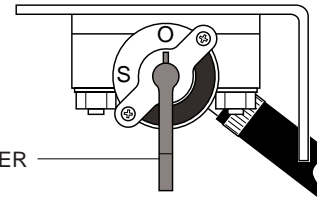

Figure 15 - Fuel Valve Lever In “O” (open) Position
2. Move fuel valve lever to the “O” (open) position (see Figure 15).